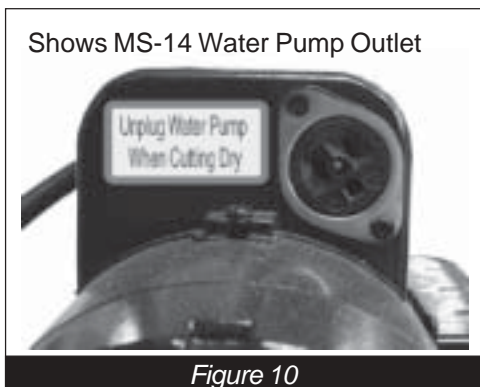

Figure 10
- Plug submersible pump into the special outlet on the motor. (Figure 10)